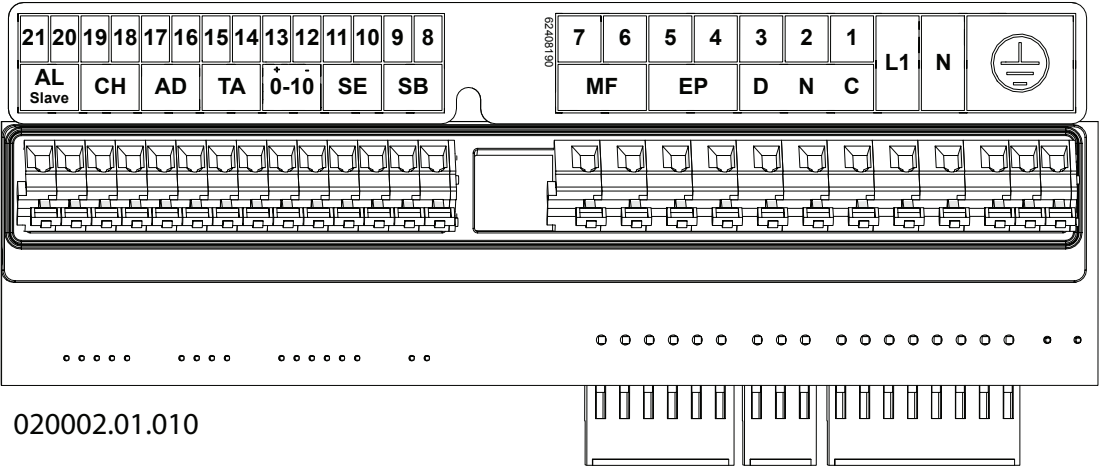

Figure 5-10 – Electrical connections
Figure 5-10 key
To connect the power supply cable proceed as follows (refer to Figure 5-10):
In order to connect the remote control cable, proceed as follows (refer to Figure 5-10):
- 3.- Connect the 2 cable ends to boiler terminals "14" and "15" (TA) (see Figure 5-10);
- 5.- Connect a timer with a free contact that sets the turning on and off of the recirculation to terminals "14" and "15" in Figure 5-10.
Proceed as follows for the electric connections (refer to Figure 5-10):